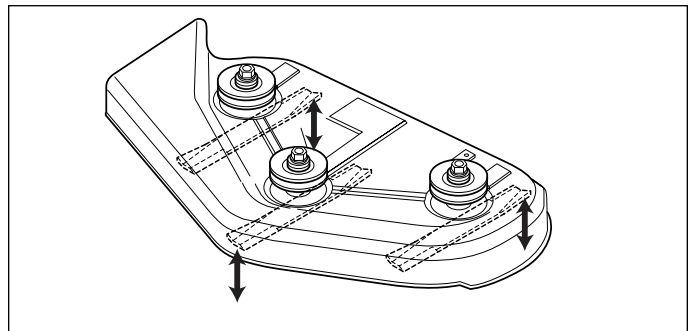

Figure 35. Orient Blades Front-to-Back
1. Arrange the blades so they face front-to-back (Figure 35).